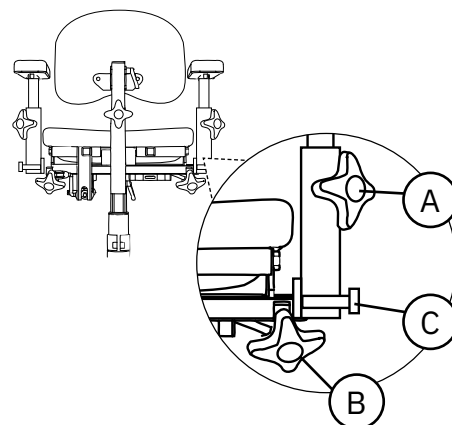

Figure 5.35. Foldable armrests.
Folding armrests are adjustable in height (A), width (B) and can be folded backwards (C), see Figure 5.35.